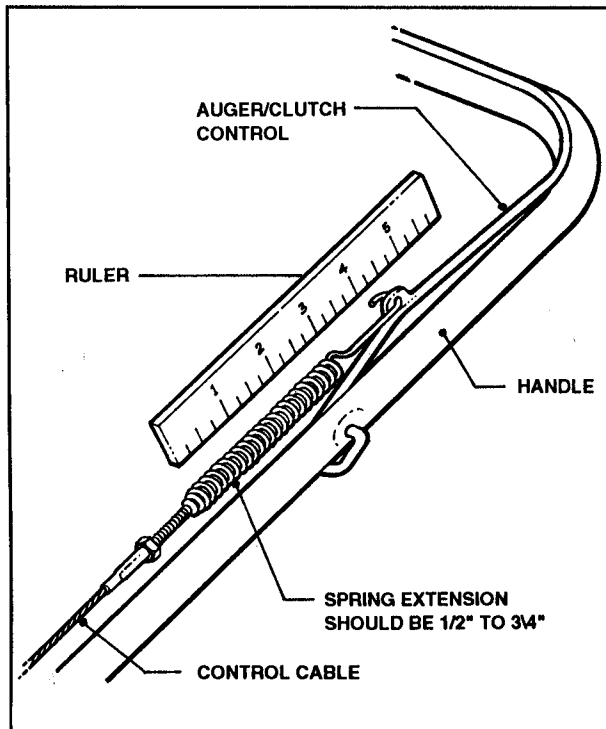

FIGURE 4.1
Pull the Auger Clutch Control down against the Handle and measure the Spring Extension. Proper Extension should be 1/2" to 3/4". See Figure 4.1.
C. Depress Auger Clutch Control and recheck Spring Extension. Refer to Figure 4.1.